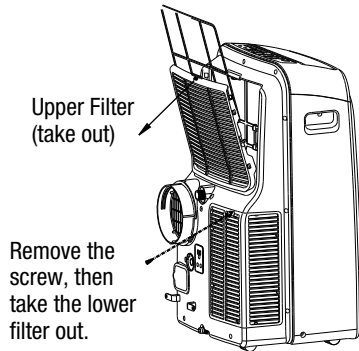

FIG. 27
- **REMOVAL:** This unit has two filters. Take the upper filter out along the arrow direction as shown in Fig. 27. Remove the lower filter by loosening the screw and taking out the filter as shown in Fig. 27.